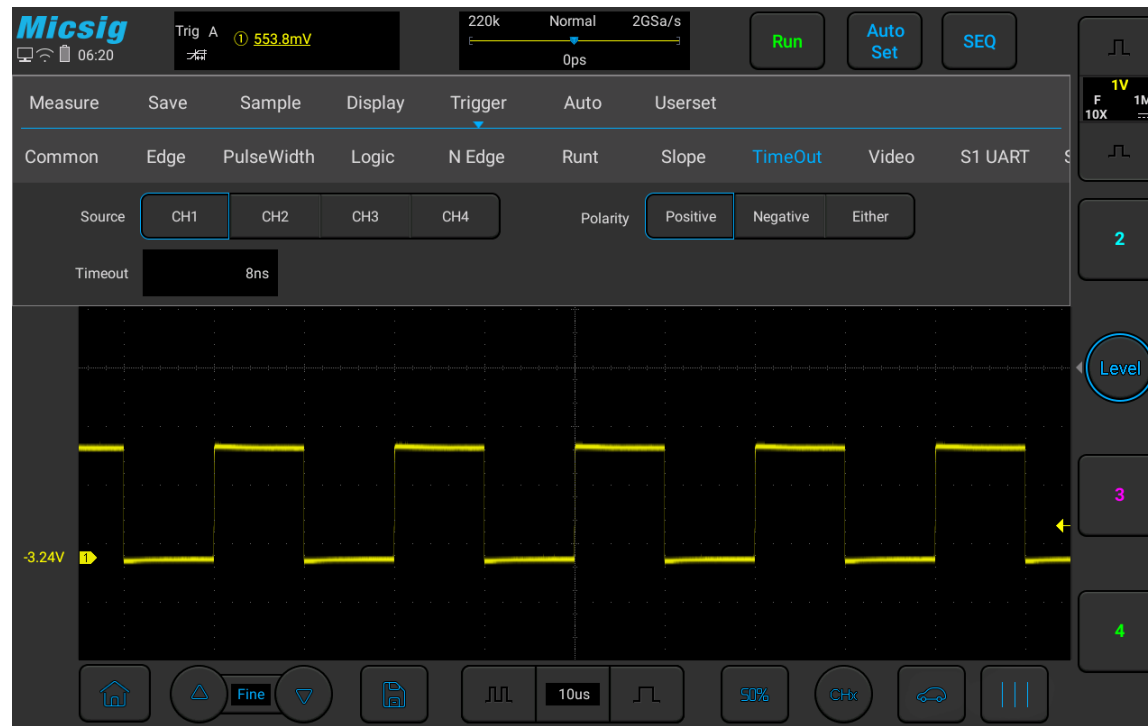

Figure 6-29 Time-out Trigger
- 1) Tap “Trigger” on the main menu to open the trigger menu, select timeout trigger in the trigger type, and set the timeout trigger as follows, as shown in Figure 6-29: